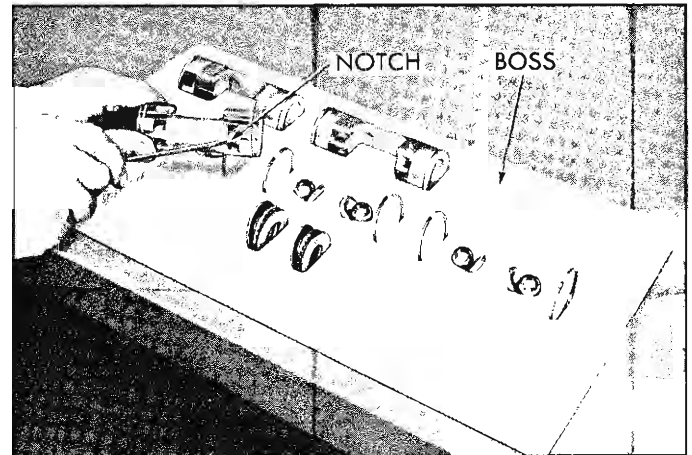

Fig. 31—Notch Identifying Front End of Piston
**NOTE:** The front of the piston may be identified by a notch in the casting web. See Figure 31. The piston compartments in tray J-9402 have a boss at this notch location to indicate the front.